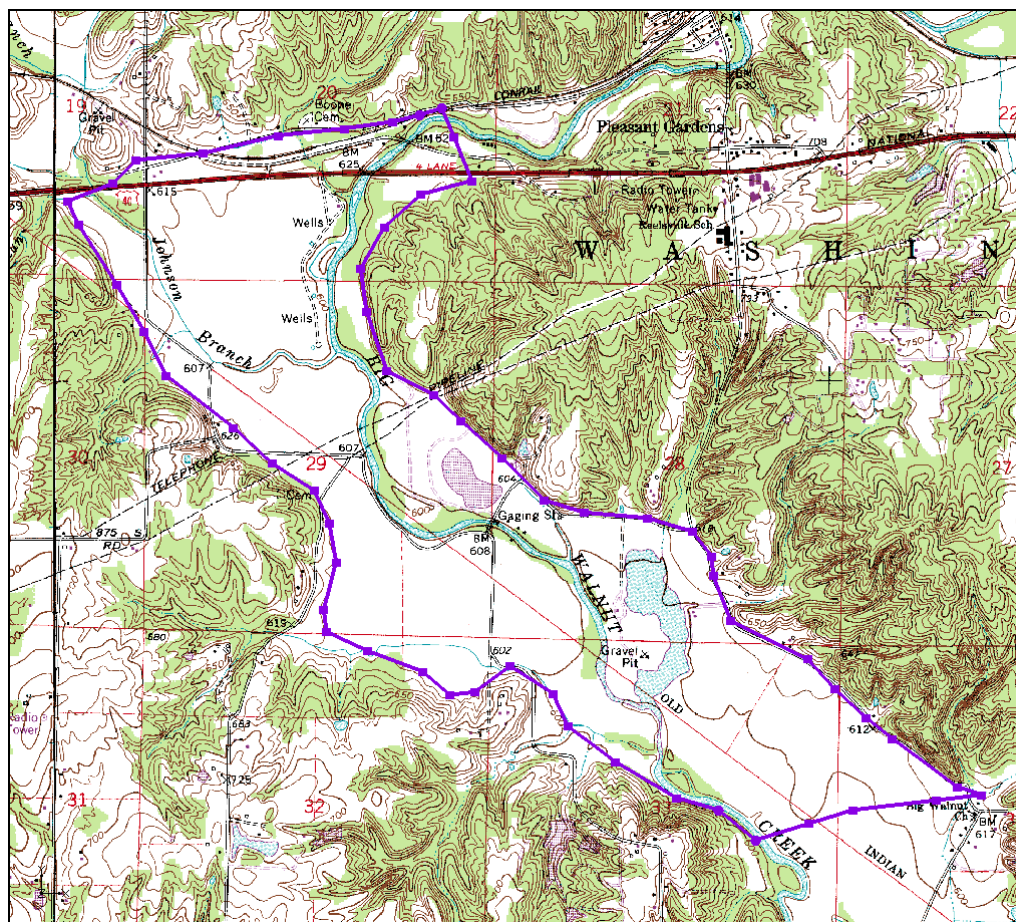

Figure 3. Boundary Arcs
6. Zoom in around the model area by dragging a box that encloses the area shown in Figure 3 below.
8. Click out the boundary as shown in Figure 3 below.